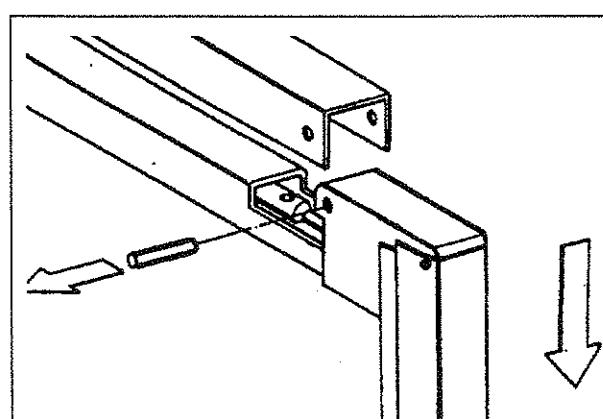

Figure 24 First arm balancing
- Lift the complete scissors arm in such a way to reduce the weight on the pin, remove screw and pin (see Figure 24 on page 41).